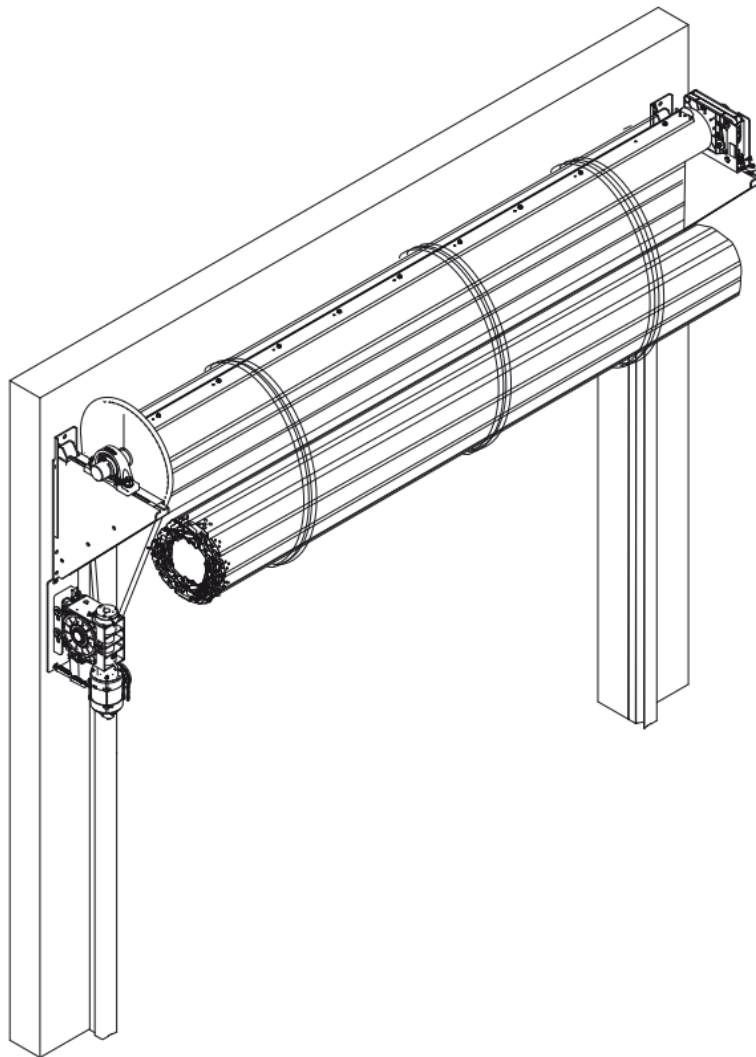

Fig: 2.4.1 Chain drive product shown
b) Carefully lift to within 300mm under the drum, Figure 2.4.1, by means of two other lengths of heavy gauge rope sling the curtain roll up to the drum as shown in the illustration. Make sure the end of the curtain is on top of the roll and able to be raised up.